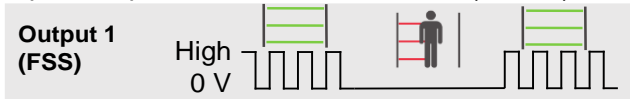

Figure 9: Principal timing diagram for the FSS output
The default logic is Light ON (LO) (Figure 9). When an object enters the safeguarded area (OBJECT DETECTED), the FSS output switches to LOW/GND (0 V). When the object leaves the safeguarded area (NO OBJECT) the frequency starts again.